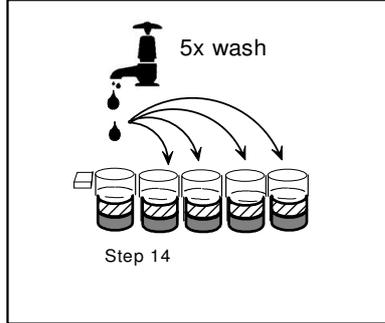

Fig. 4 Wash procedure
13. Wash the test strips with running tap water: Fill all wells to the rim. Empty the wells. Repeat 5 times. Turn the wells upside down and empty the wells by slapping the strips onto a tissue paper. Take care that none of the wells dry out before the next reagent is dispensed. (see fig. 4)